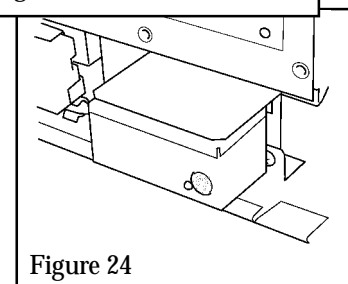

Figure 24
- Place the remote control receiver on the “Velcro” pad in front of the battery shield. See figure 24.